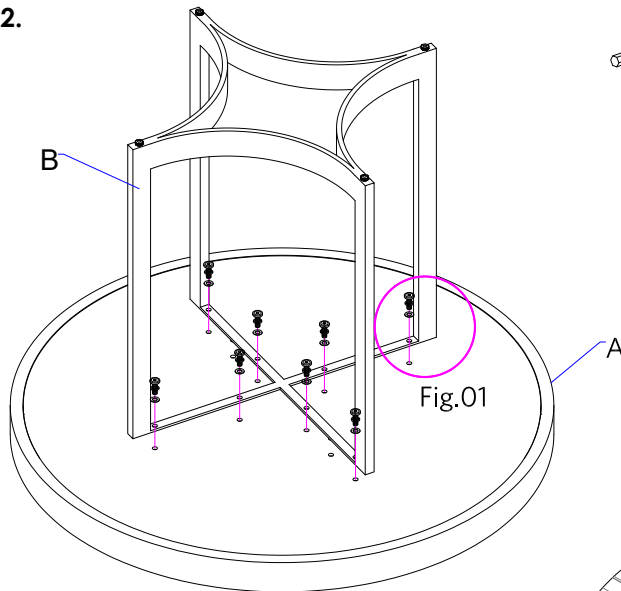

FIGURE 01
- Gently, lay the table top (A) upside down on a soft flat surface. Attach the table base into the table top, align and insert Allen bolt (1) together with lock washer (2) and flat washer (3) to each hole under top through the hole on the stretcher of the base. Tighten all the bolts by using wrench (4). **DO NOT OVER TIGHTEN.** See **FIGURE 01.**